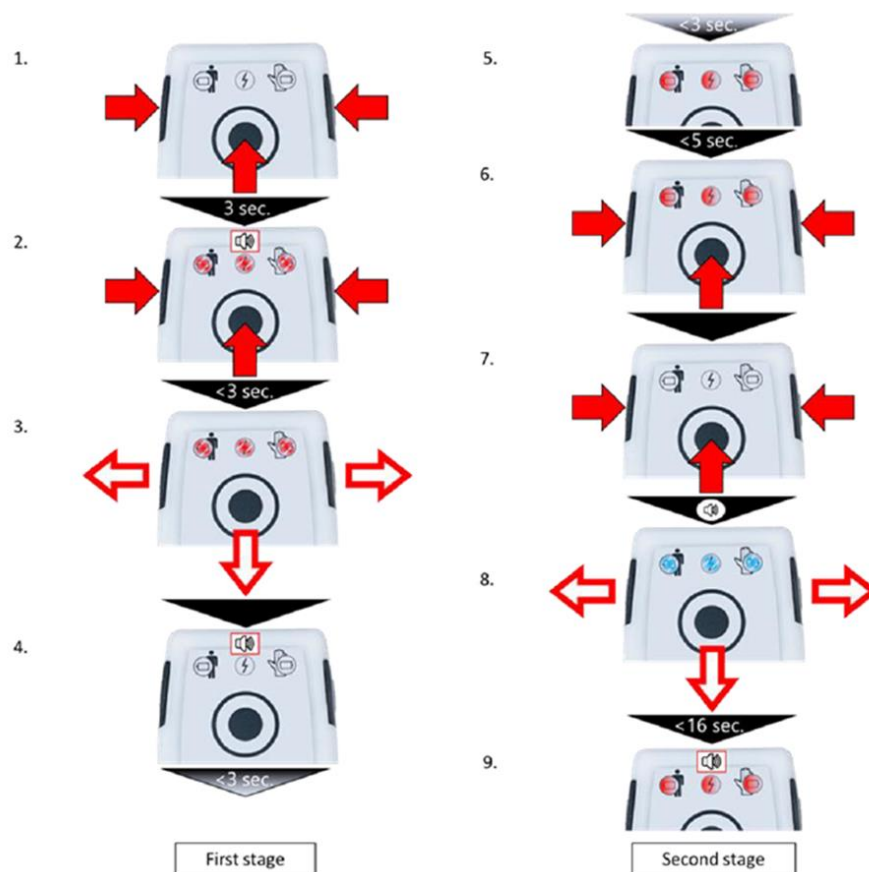

Figure 1 Sequence of commands for turning EASEE® Power off.
- In case your treating neurologist is not present: Please use your patient controller EASEE® Access to turn off the implant (see Figure 1 on page 2).